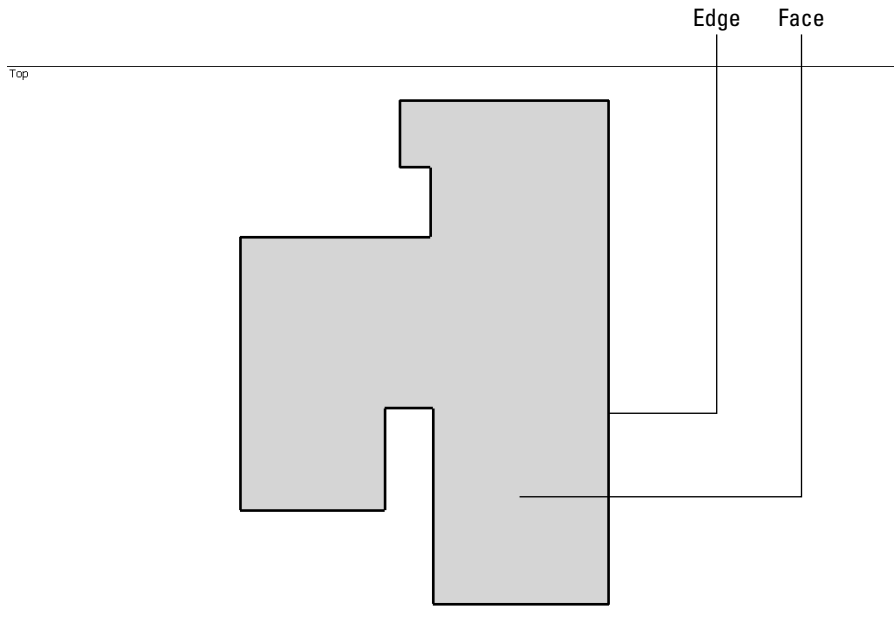

Figure 4-12:
- 4. I keep going all the way around the house, until I get back to where I started. (See Figure 4-12.)**